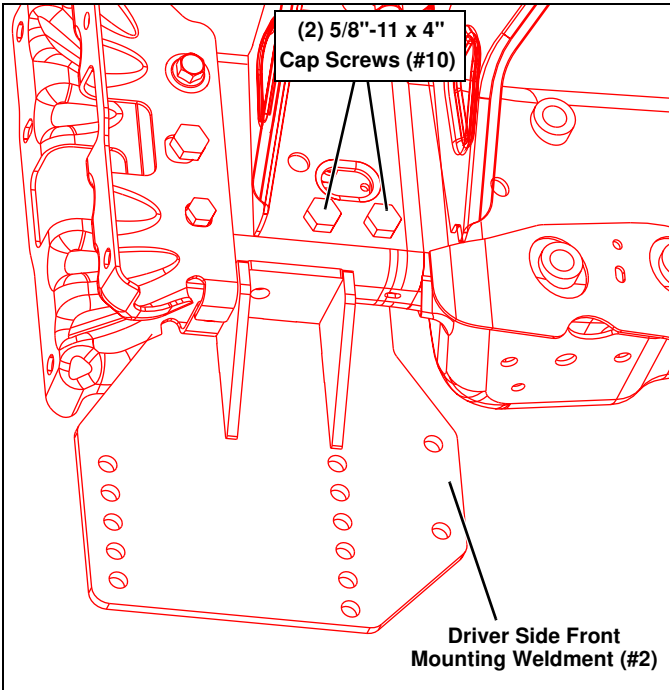

Figure 6
8. Insert (2) 5/8"-11 x 4" Cap Screws (#10) through the frame where the Frontal Crash Brackets were located and secure to the Driver Side Front Mounting Weldment (#2) with (2) 5/8"-11 Locknuts (#11). (See Figure 6.) If installing on a diesel engine, the intercooler bracket will complicate this step. If there is an intercooler bracket, place the locknuts into position with the open end of a wrench, then insert the cap screw through the frame. You may have to pry the intercooler bracket away from the vehicle frame during this step.